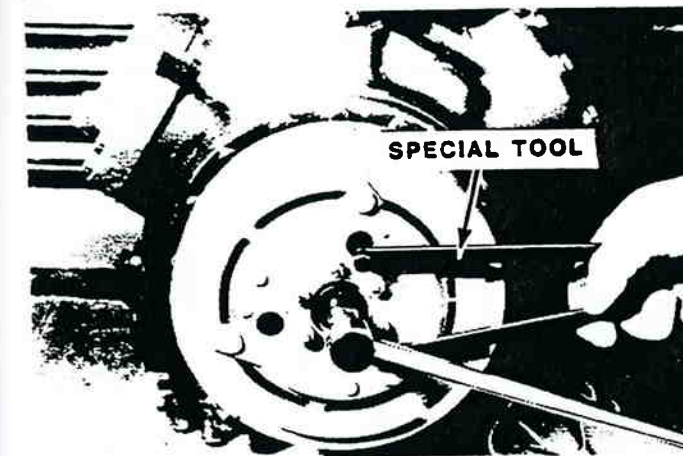

Figure 16-51: Capscrew Removal
4. Insert tool 20-296 into two of the three threaded holes in the armature. See figure 16-51. This is to prevent the armature from rotating.